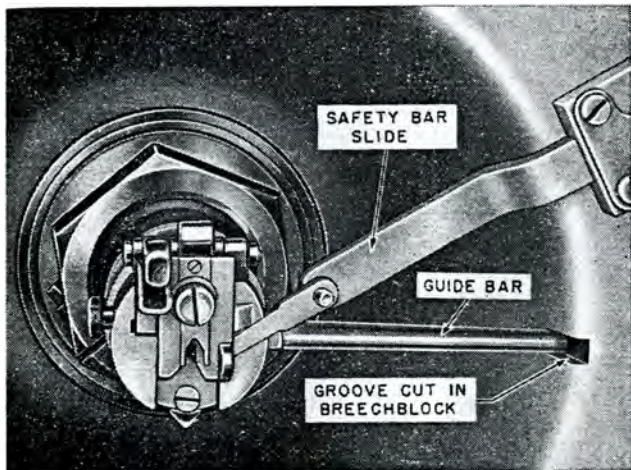

Figure 9. Firing mechanism M1903 on gun, without firing cable.
(2) When the firing mechanism slide is down (closed position) the inner end of the safety bar engages the firing leaf. The safety bar is actuated by the safety bar slide (fig. 9) which in turn is actuated by the rotation of the breechblock. Thus, the safety bar is withdrawn from the firing leaf only at the last part of the movement of the breechblock in closing.